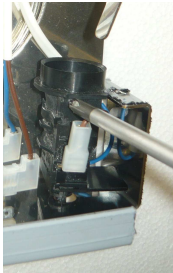

Fig. 3
- 2 – Per Mobile MS 80: Scollegare i cavi dal portalampada e rimuovere i fast-on (Fig. 3)
For MS80 version disconnect the lamp holder and remove the fast-on fixed on the cable (Fig.3)
Fig. 3 b